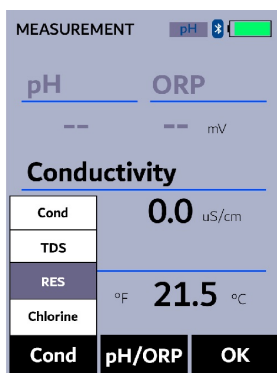

Figure 12. Highlight RES (resistivity) measurement
2. Press **Cond** () as needed to highlight **RES** in the selection menu (Figure 12).